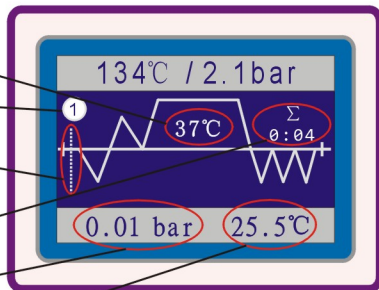

Fig.6.4-15
(1) **Heating coil preheating stage:** when temperature heating coil less than 40°C, the Control system stops vacuuming. Heating coil temperature must be raised above 40°C before they start vacuuming. (Fig.6.4-15)